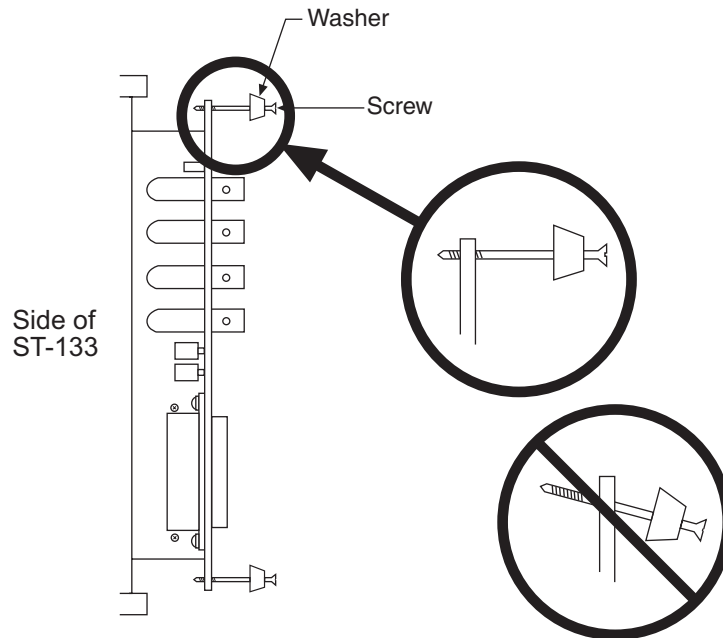

Figure 43. Module Installation
3. Rotate the two locking screws counterclockwise until the threads on the screws engage those of the module panel. *See Figure 43.* By doing this, the screws will be perfectly perpendicular to the module panel and will align perfectly when the module is inserted.